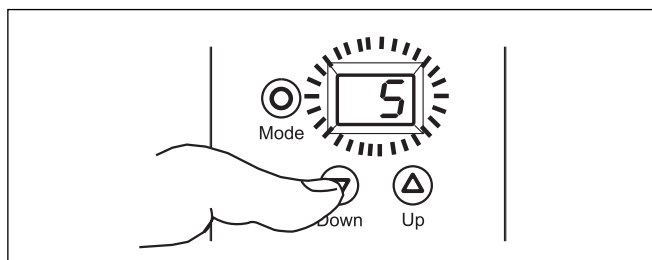

Figure 8
2. Press the  button once more to reach the adjusting screen. Set the desired value by using the  and  buttons (Figure 8). See Table 2 for the code Key.